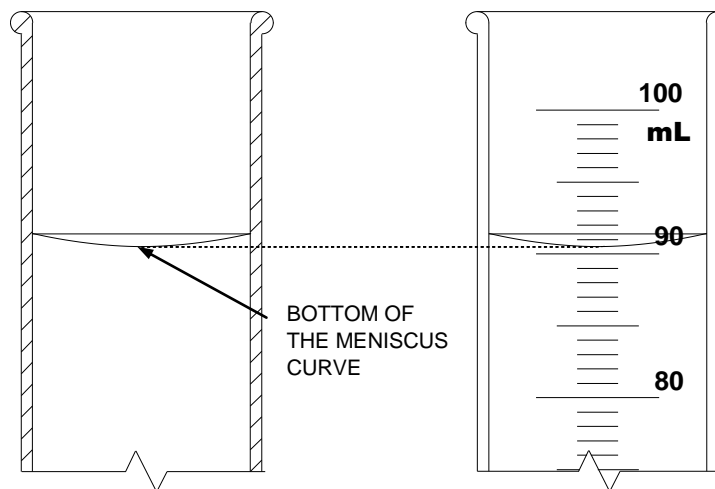

Figure 3 - Meniscus Curve
- Surface tension causes the fluid to curve into a meniscus (see Figure 3). Measure the volume at the bottom of the meniscus curve as shown.